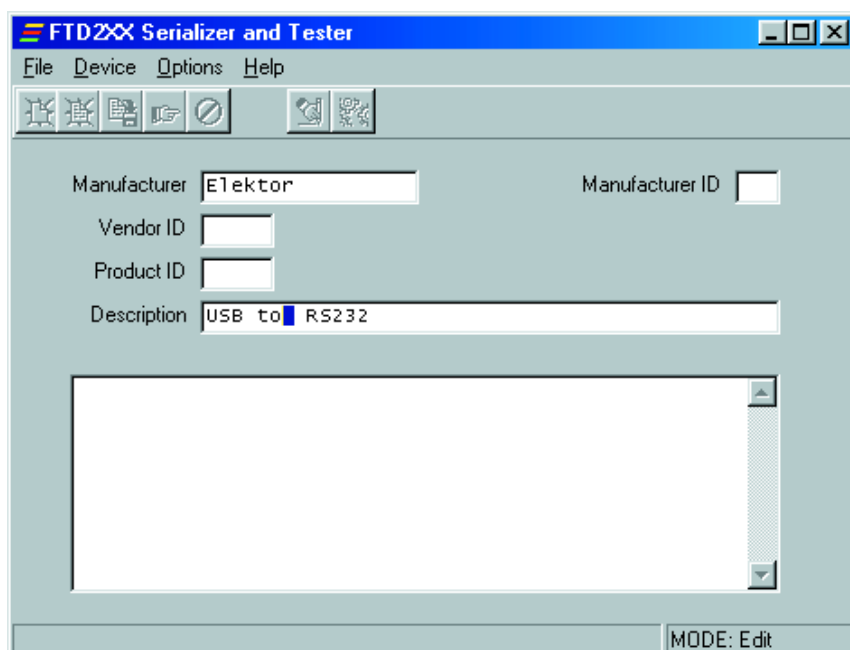

Figure 9. Utility program for (optional) programming of PID and VID information into the 93C46 EEPROM.
**Figure 9** shows the programming window of the tool available for programming the EEPROM connected to the FT232AM. This little tool may also be downloaded from the FTDI website. OEMs (original equipment manufacturers) may want to use this tool to program their own VID or PID. If you do not have a VID or PID, you may either omit them or omit the entire EEPROM. Yet another possibility is to simply resort to the PIDs and VIDs reserved by FTDI Chip. For the FT232AM, VID = 0403 and PID = 6001. A more extensive description of the actual uses of this option may be found in the programming instructions supplied by FTDI in the form of yet another free download.